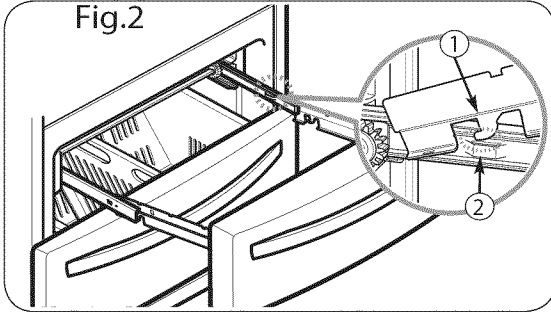

Fig.2
- Hook door supports ① into rail tabs ② (Fig. 2)